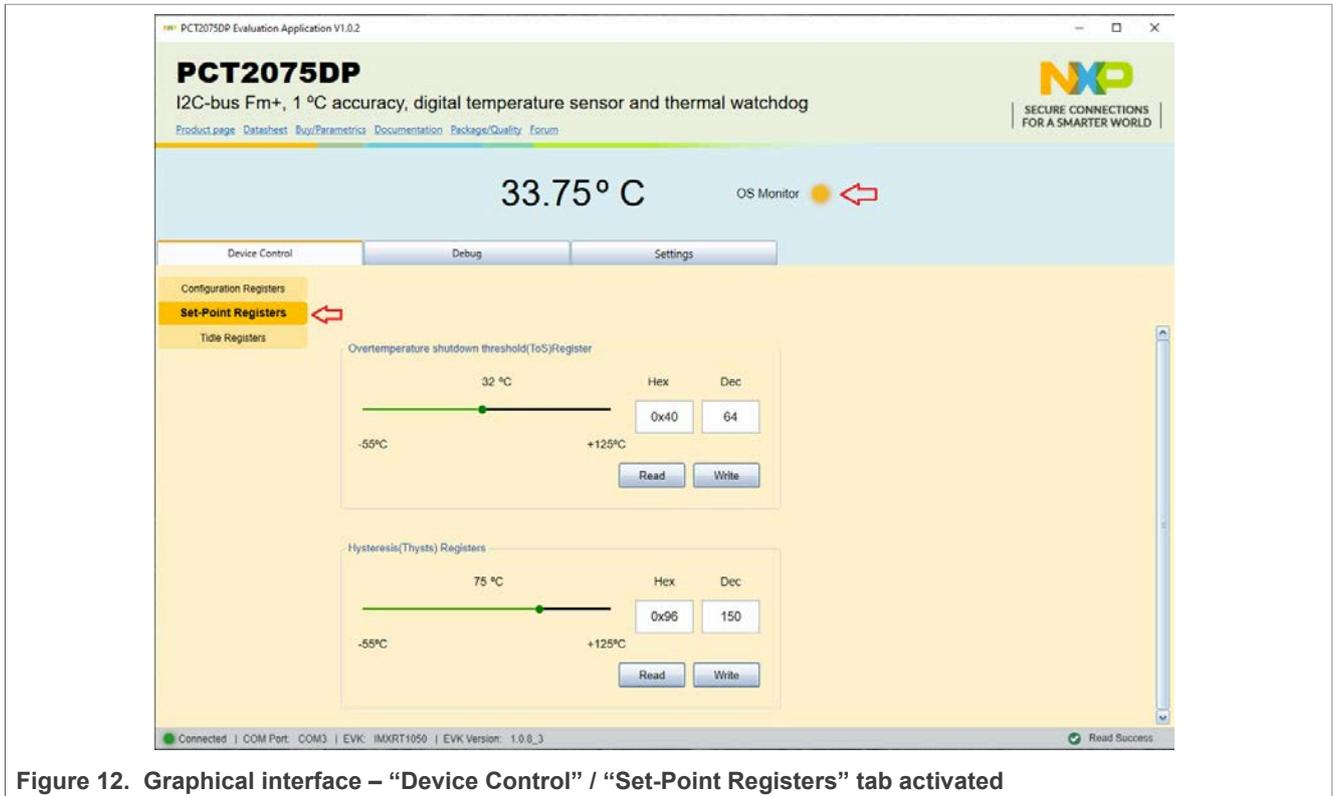

Figure 12. Graphical interface – “Device Control” / “Set-Point Registers” tab activated
The next secondary tab under the root tab **Device Control** is **Set-Point Registers**. From here, the user adjusts the Overtemperature shutdown threshold (Tos) and hysteresis (Thyst) parameters. The data to be read in the corresponding registers is introduced by dragging the graphical sliders, or by introducing the Hex or Dec values directly from the keyboard. The **Write** buttons set the register in the DUT IC, and the **Read** buttons allow the user to bring back the date from the internal registers of the IC to GUI. More details regarding Tos and Thyst are detailed in the PCT2075 datasheet. Figure 12 shows the **Device Control / Set-Point Registers** window. In the upper blue region, left side (and marked with the red arrow) the OS indicator shows the logic level of Overtemp Shutdown (OS) output of the DUT IC. The indicator replicates the status of the on-board LED (D2) located on PCT2075DP-ARD daughterboard.